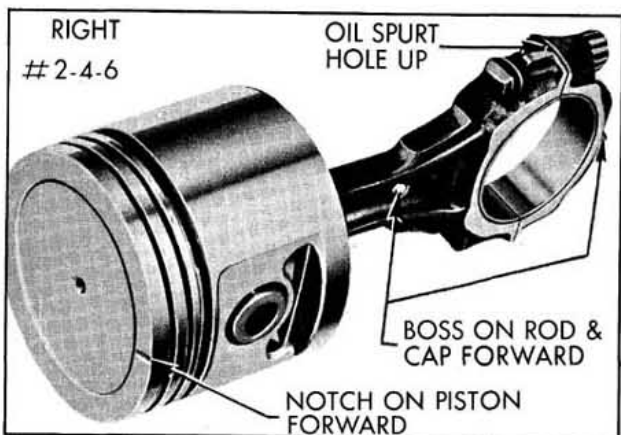

Fig. 3-31 Right Bank Piston and Rod Assembly
3. If the piston and rod is to be installed in the right bank, the assembly must be made as shown in Fig. 3-31.